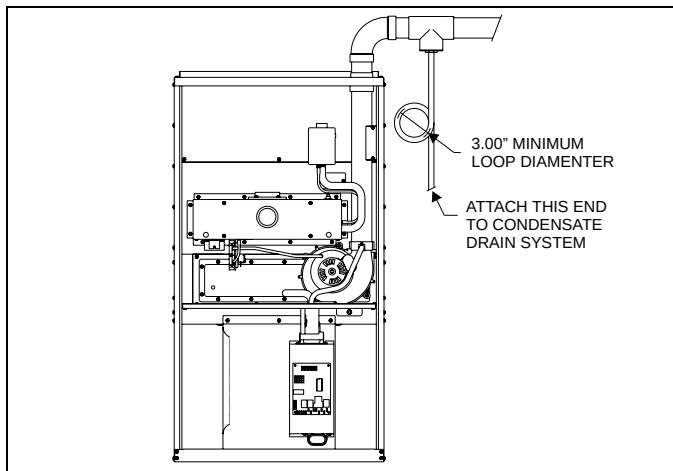

FIGURE 16: Horizontal Vent Drain
7. A vent drain is required when vent passes through any unconditioned space such as an attic or crawl space in order to prevent the accumulation of excess condensate in the inducer motor during operational cycles, refer to Figure 16 and "VENT DRAIN".
6. A vent drain is required when vent passes through any unconditioned space such as an attic or crawl space in order to prevent the accumulation of excess condensate in the inducer motor during operational cycles. See Figure 16.